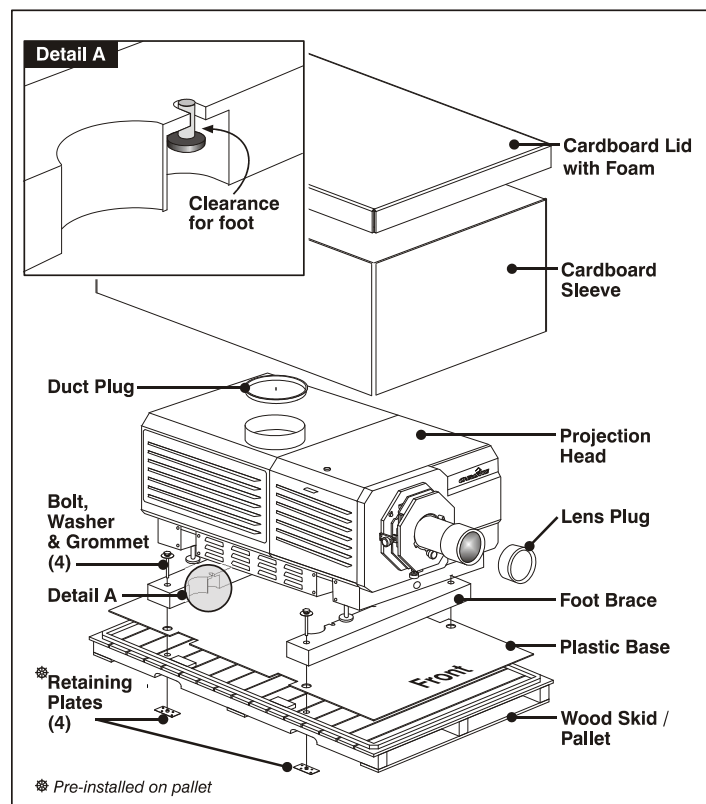

Figure D-1. Packing the Projection Head
3. Place the projection head on the plastic base with lens nearest the larger front area as shown in Figure D.1.